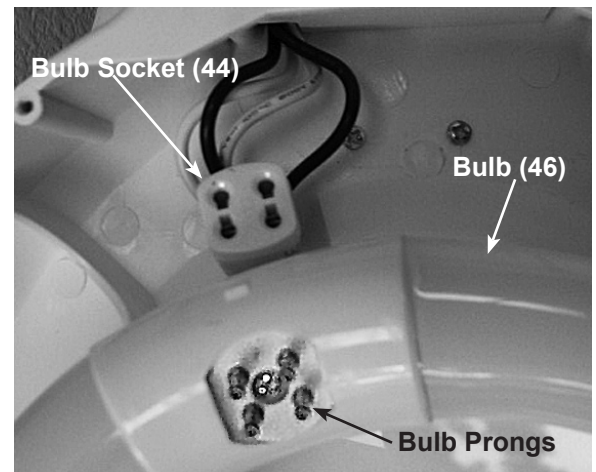

Fig. 5
6. Pull the Circline Bulb (46) prongs out of the square Bulb Socket (44). (See Fig. 5.)